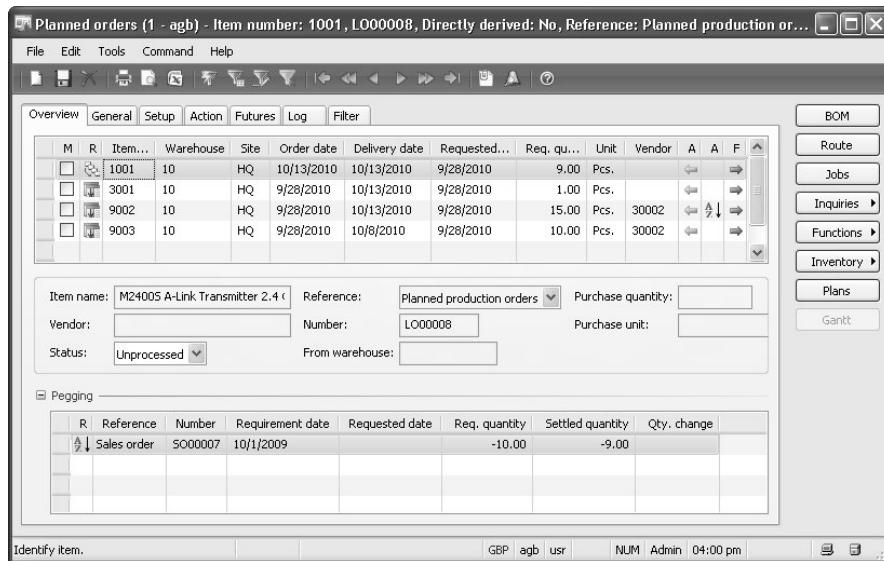

Figure 6.11: Planned orders after completing master scheduling
Pushing the plus sign (+) in the *Pegging* section at the bottom of the planned orders form, you may see the requirements, which are covered by the planned order. In the example of Figure 6.11 you may see, that the planned production order for item 1001 covers the sales order SO00007 shown in the *Pegging* section.